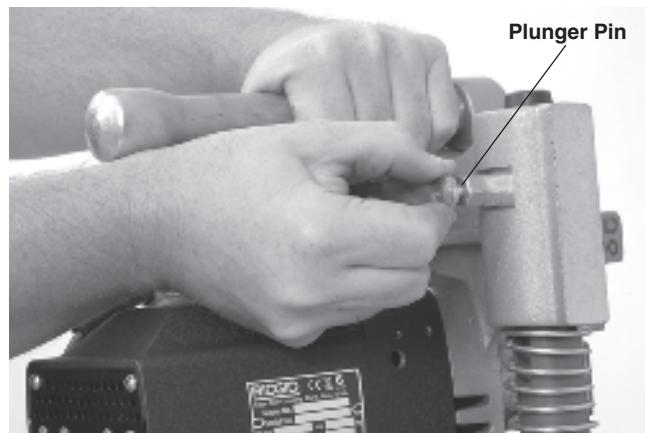

Figure 7 – Separating the Base and Motor Assemblies
- Broken, worn, missing, mis-aligned or binding parts. Make sure that the motor assembly moves smoothly and freely up and down the posts of the base assembly. Confirm that the chain and swivel handle move freely. On the HC-300, confirm that the plunger pin functions properly and retains the motor assembly to the base assembly (*Figure 7*).
1. With the HC-300 Hole Cutting Tool on a stable, secure surface, pull the plunger on the back of the left post (*Figure 7*) and lift the motor assembly off of the base assembly.